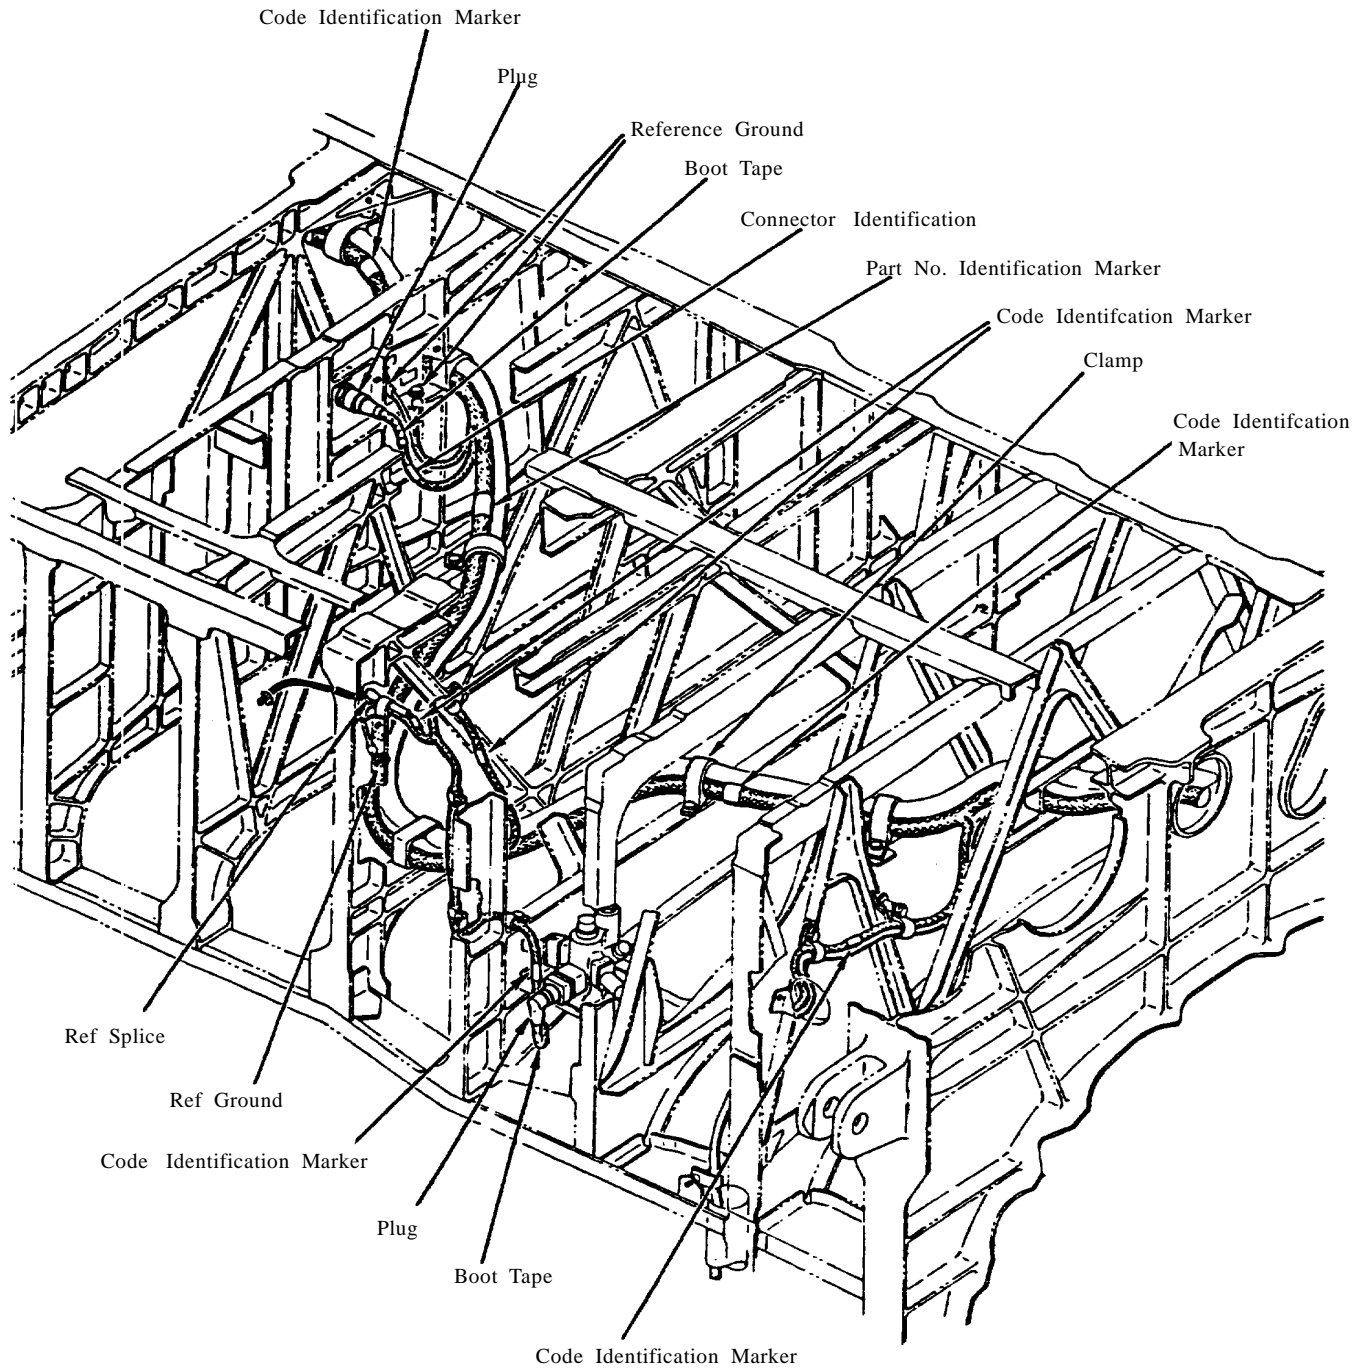

Figure 1. Typical Protected Harness Installation
2. This Work Package (WP) provides general instruction for the removal and installation of a harness or cable from the aircraft for the purpose of repair. When available, maintenance personnel should always look first to the aircraft maintenance manual for guidance. The information provided herein should not be used for design or modification on the electrical wiring. Design and modifications should be performed in accordance with SAE-AS50881.
6. **PROTECTED HARNESS.** Protected harnesses are typically the same as open harnesses except the wall thickness of the wires within the harness are thinner which requires the harness to have a protected covering. The thin wall wire, called lightweight wire, has small diameters and weigh less than unprotected wires. The protected harness will be smaller and weigh less than an open harness for the same number of wires used except at selected specialized Intermediate Maintenance Activities (IMA). Refer to WP 011 00. Protected harnesses are not conducive to maintenance support. A typical protected harness is shown in Figure 1.